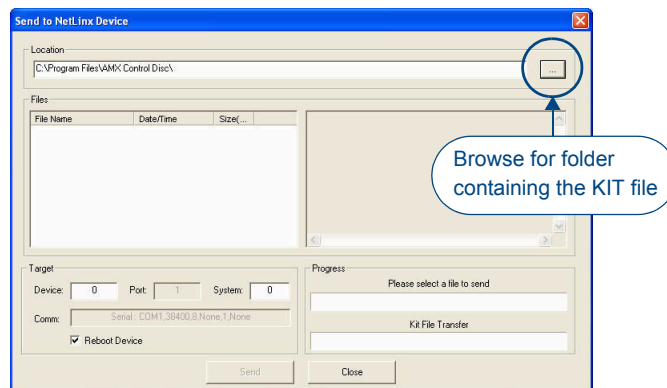

FIG. 98 Send To NetLinx Device dialog (NetLinx Studio)
2. In NetLinx Studio, choose **Tools > Firmware Transfers > Send to NetLinx Device** to open the Send to NetLinx Device dialog (FIG. 98).